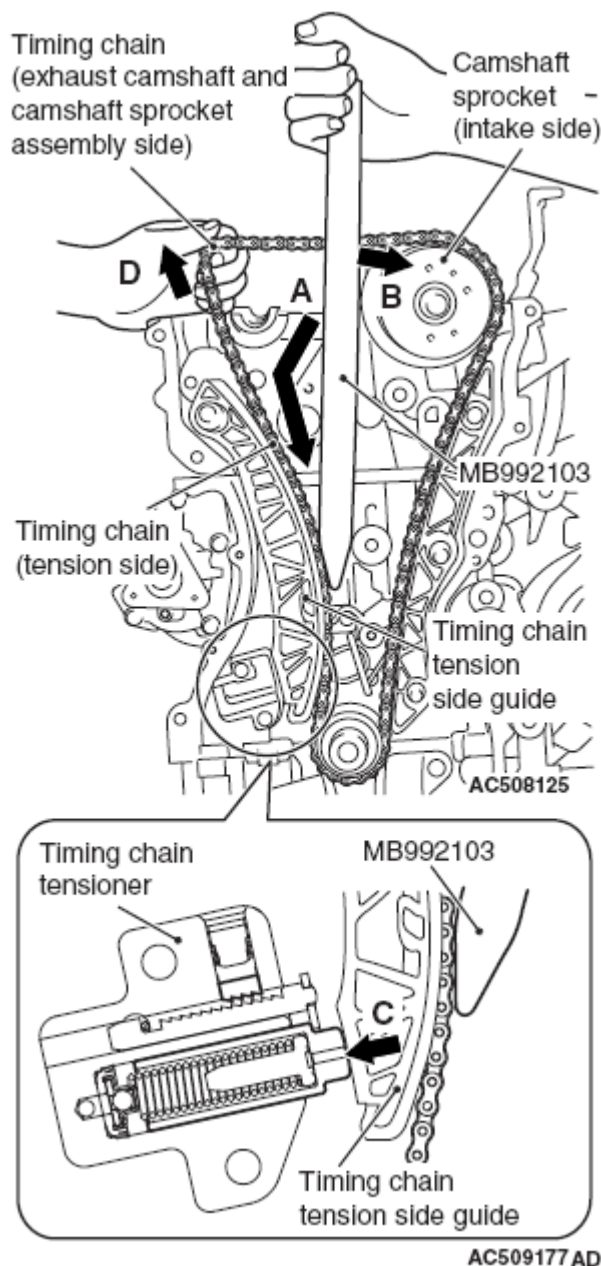

Fig. 49: Pressing Special Tool Against Intake Side Camshaft Sprocket
3. With the timing chain tensioner unlocked, insert special tool MB992103 inside the timing chain case assembly along the tension side of the timing chain until the insertion guide line aligns with the upper surface of the timing chain case assembly (**Fig. 49**).
4. With the special tool inserted up to the insertion guide line, press the special tool against the intake side camshaft sprocket (**Fig. 49**) and spread and hold the timing chain tension side guide (**Fig. 49**).
6. Pull up the camshaft and camshaft sprocket assembly (exhaust side) mounting area of the timing chain (**Fig. 49**) to provide allowance for easy installation of the camshaft and camshaft sprocket assembly (exhaust side) to the timing chain.